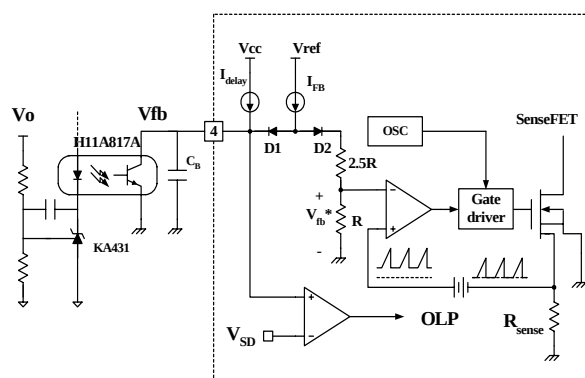

Figure 5. Pulse Width Modulation (PWM) Circuit
2. Feedback Control : FSES0765RG employs current mode control, as shown in figure 5. An opto-coupler (such as the H11A817A) and shunt regulator (such as the KA431) are typically used to implement the feedback network. Comparing the feedback voltage with the voltage across the Rsense resistor plus an offset voltage makes it possible to control the switching duty cycle. When the reference pin voltage of the KA431 exceeds the internal reference voltage of 2.5V, the H11A817A LED current increases, thus pulling down the feedback voltage and reducing the duty cycle. This event typically happens when the input voltage is increased or the output load is decreased.
2.1 Pulse-by-pulse Current Limit: Because current mode control is employed, the peak current through the Sense FET is limited by the inverting input of the PWM comparator (V_{fb}^*) as shown in figure 5. Assuming that the 0.9mA current source flows only through the internal resistor ($2.5R + R = 2.8 k\Omega$), the cathode voltage of diode D2 is about 2.5V. Since diode D1 is blocked when the feedback voltage (V_{fb}) exceeds 2.5V, the maximum voltage of the cathode of D2 is clamped at this voltage, thus clamping V_{fb}^* . Therefore, the peak value of the SenseFET current is limited.